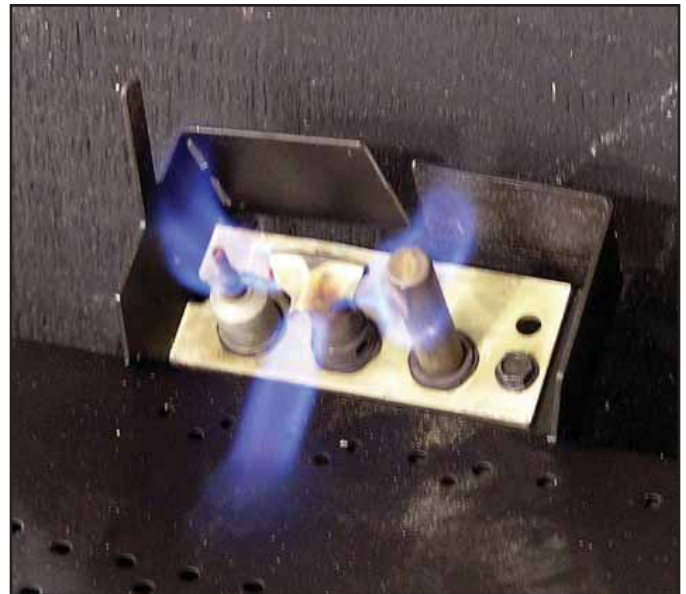
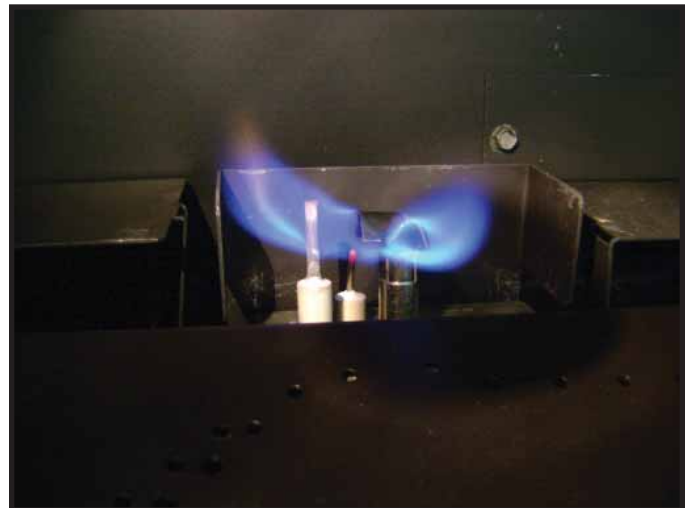

Figure 3.1 Standing Pilot Flame Patterns
Figure 3.2 IPI Pilot Flame Patterns
- Inspect pilot flame pattern and strength. See Figure 3.1 or Figure 3.2 for proper pilot flame pattern. Clean or replace orifice spud as necessary.